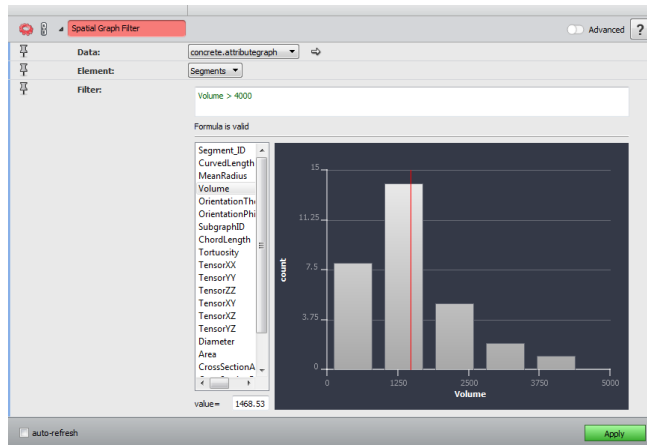

Figure 12.30: Parameters Settings of the *Spatial Graph Filter* Module
2. Attach a *Spatial Graph Filter* module to the spatial graph result of the *Fiber Shape Statistics* module and set the parameters as shown in Figure 12.30, and click **Apply**.